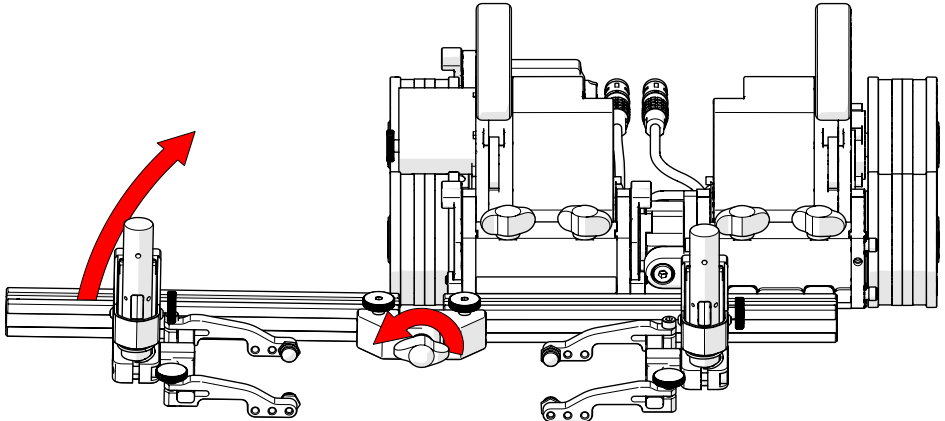

Fig. 229 - Lift frame bar to avoid interference
2. Loosen the pivot wing knob and raise the frame bar to an angle greater than the surface to be scanned (Fig. 229). Tighten the pivot wing knob and place crawler on scan surface (see "Placement of Crawler on Inspection Surface" on page 24)